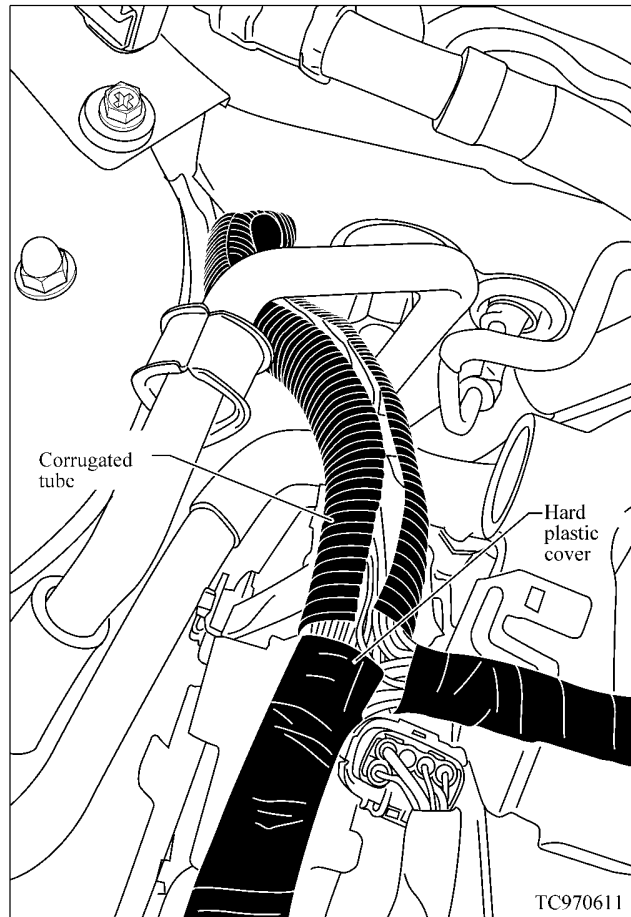

Figure 5
4. Cut and unwrap the tape from around the corrugated tube surrounding the harness (see Figure 5). Remove and discard the corrugated tube.
8. Remove the tape to expose the hard plastic cover at the harness intersection (see Figure 5).